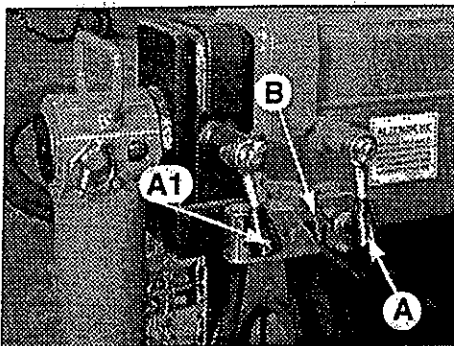
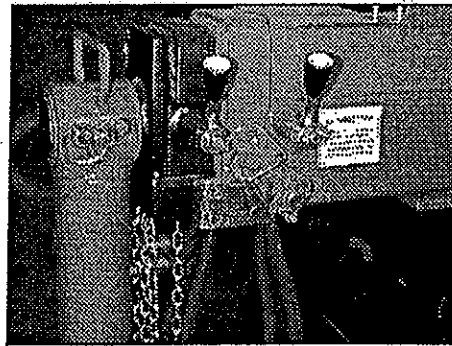

fig. 23
fig. 24
- Release the locking devices (of the first and second outrigger support) and stops positioning the levers **A**, **A1** and **B** from the position indicated on the fig. 23 to the one indicated on the fig. 24